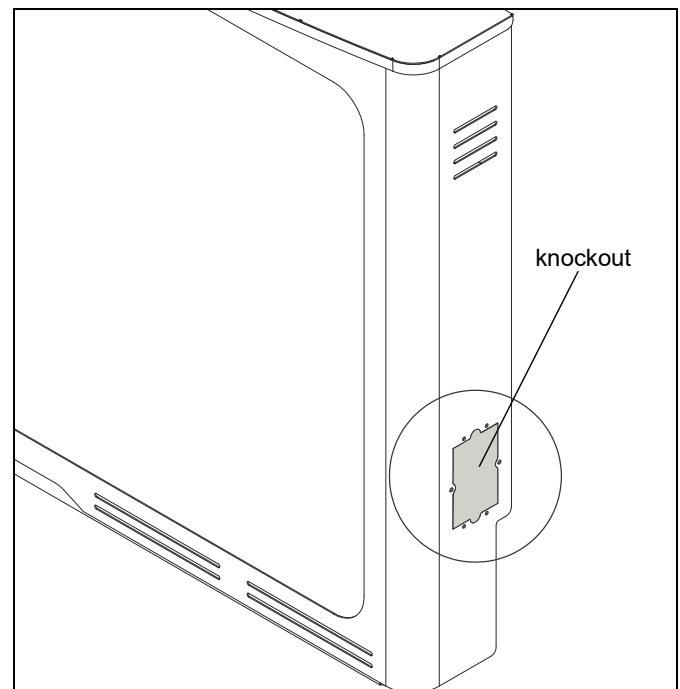

Figure 22
1. Remove knockouts on base cover (C) as desired for cable management or to install control boxes. (See Figure 22)